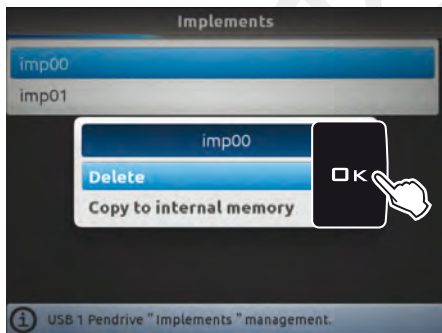

Fig. 298
- Select **Delete** (Fig. 298) and press **OK**.